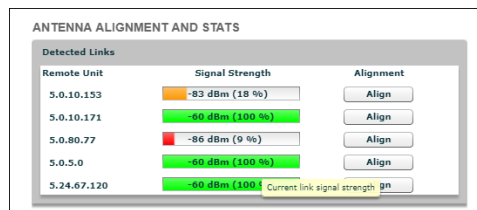

Figure 27. Configurator GUI (Antenna alignment and stats dialog)
- The **ANTENNA ALIGNMENT AND STATS** window will be shown (Figure 27 (page 80)).